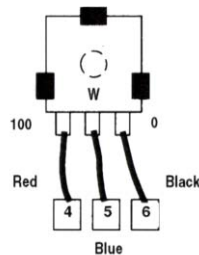

Figure 9.
5. Wire the speed pot to Terminals 4, 5, and 6 as shown in Figure 9.
9. Connect the potentiometer wires to Terminals 4, 5, and 6, as shown in Figure 9.